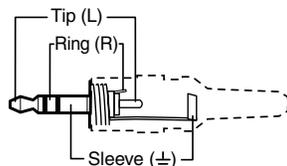

Figure 3. 3.5 mm Mini Stereo Jack
- 3 Audio inputs 1 and 2** — Connect the unbalanced stereo audio sources (such as computers or a CD player) to these 3.5 mm mini stereo jacks for unbalanced audio input. Figure 3 below shows how to wire the audio jack.